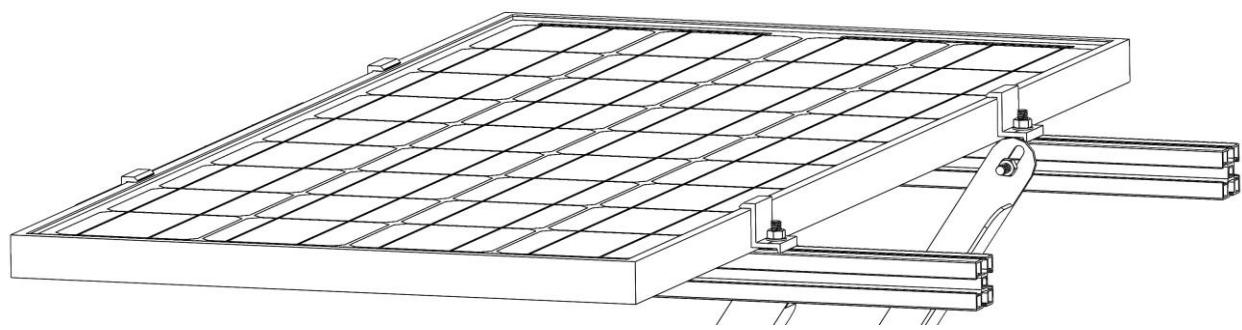

Figure 7
- E. Once End Clamps (J) and in a position to hold the panel, slide the panel onto the bracket, slide the End Clamp over the edge of the panel so that the surfaces are flush as shown in **Figure 7**.
- F. Fasten the End Clamp with a Nut (K) and Washer (H).